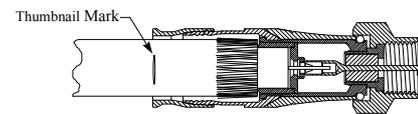

Figure 4
8. Insert the prepared cable end into the connector until the post meets the fold in the braid of the cable. Rotate the connector back and forth while gently pushing it onto the cable. Continue this action until the connector meets the mark on the cable (Fig. 4).